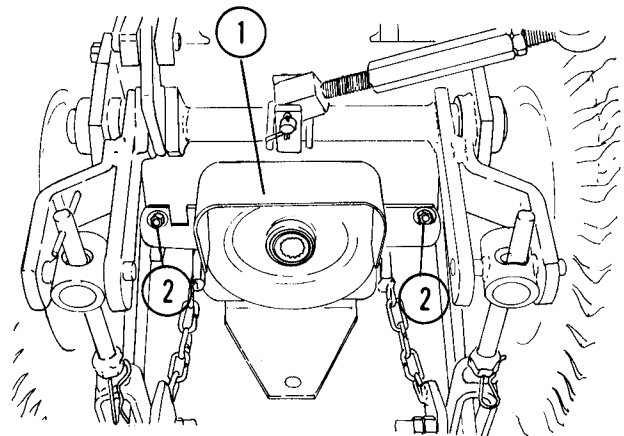

Fig. 2 — Rear PTO Shield Installed
2. Install PTO shield as shown in Figure 2, using two new bolts provided with PTO shield kit.